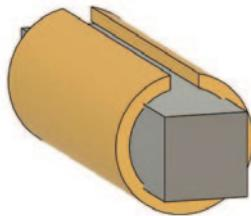

Figure 1
**Figure 1**). There will be a slight interference fit on the corners of the stock but once you split the bushing the stock will easily slide in. An easier solution is to use a one-quarter inch collet if you have it; this works perfectly. The collet method was my choice, using a ER-32 Collet.